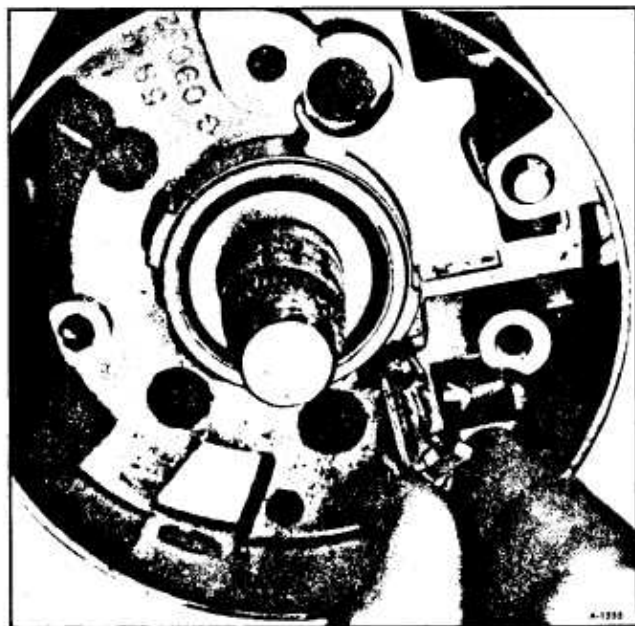

Figure 73—Removing Buzzer Switch
12. The buzzer switch can be pulled straight out of the housing. A flat spring wedges the switch toward the lock cylinder. (This may be done without the removal of the lock cylinder. If the lock cylinder is in the housing, it must be in the "run" position.) (figure 73).
10. Assemble buzzer switch to spring clip with formed end of clip around the lower end of switch and spring bowed away from switch. This should lay on the switch opposite the contacts. Push switch and spring into hole with the internal switch contacts toward the lock cylinder bore. (figure 73).